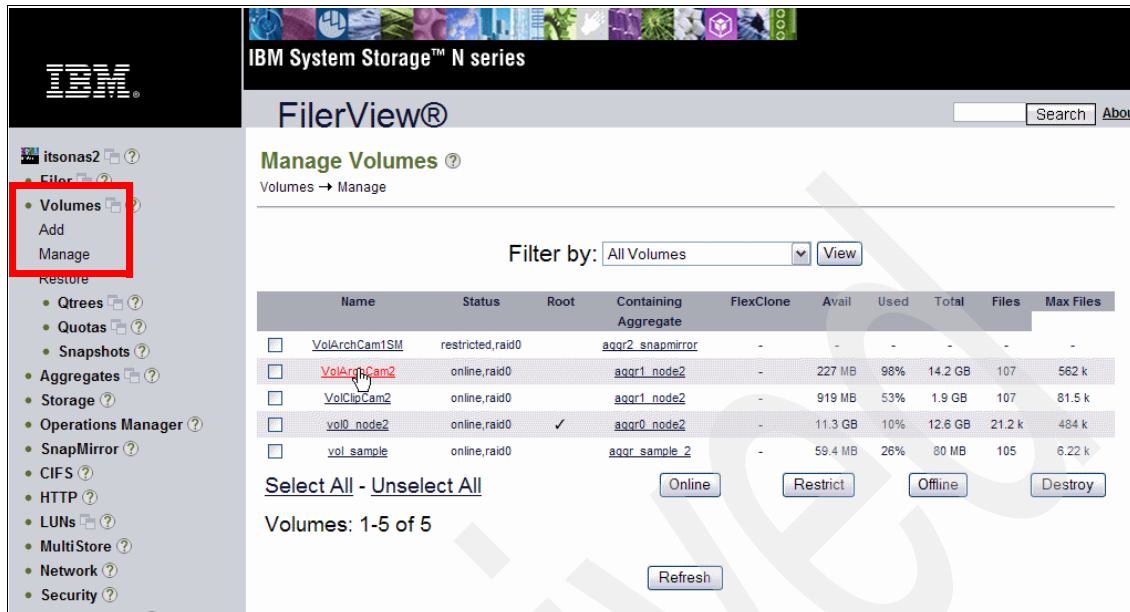

Figure 9-9 Resizing a volume
1. In FilerView, as shown in Figure 9-9 on page 299, select **Volumes** → **Manage**, you can see the original size of the volume you want to modify. Click the name of this volume.